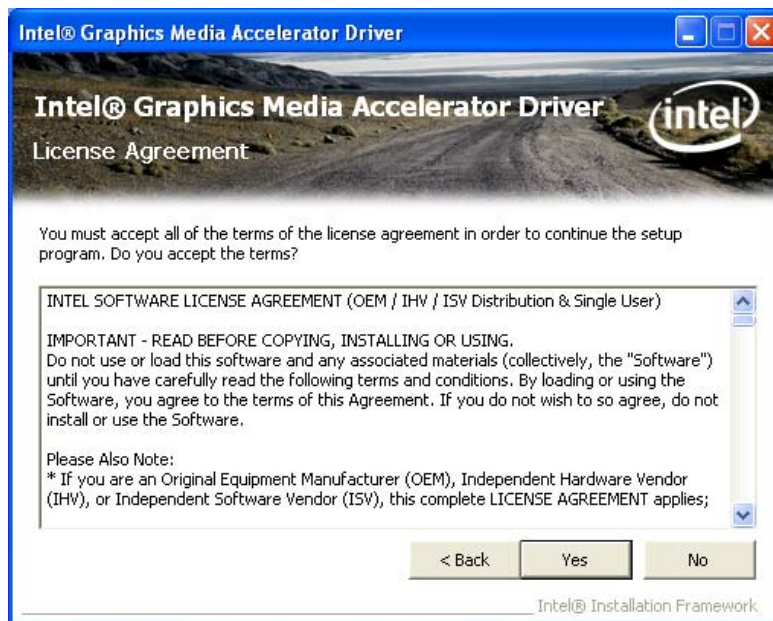

Figure 6-10: Graphics Driver License Agreement
Step 10: The License Agreement in Figure 6-10 appears.